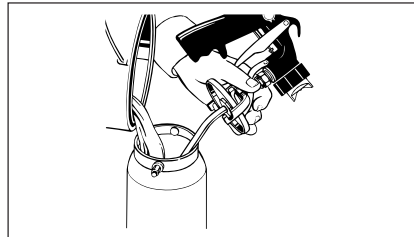

Figure 7 - Filling The Paint Cup
2. Pour material into the paint cup. Fill the material cup only 1/2 to 3/4 full if thinning of the material is required. (See Figure 7). Refer to the material chart below for proper thinning instructions.